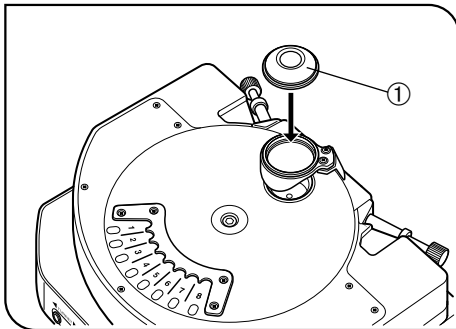

Fig. 5
- Be careful not to apply an excessive force to the arm of the top lens. Turn the top lens ① clockwise to attach (Fig. 5).